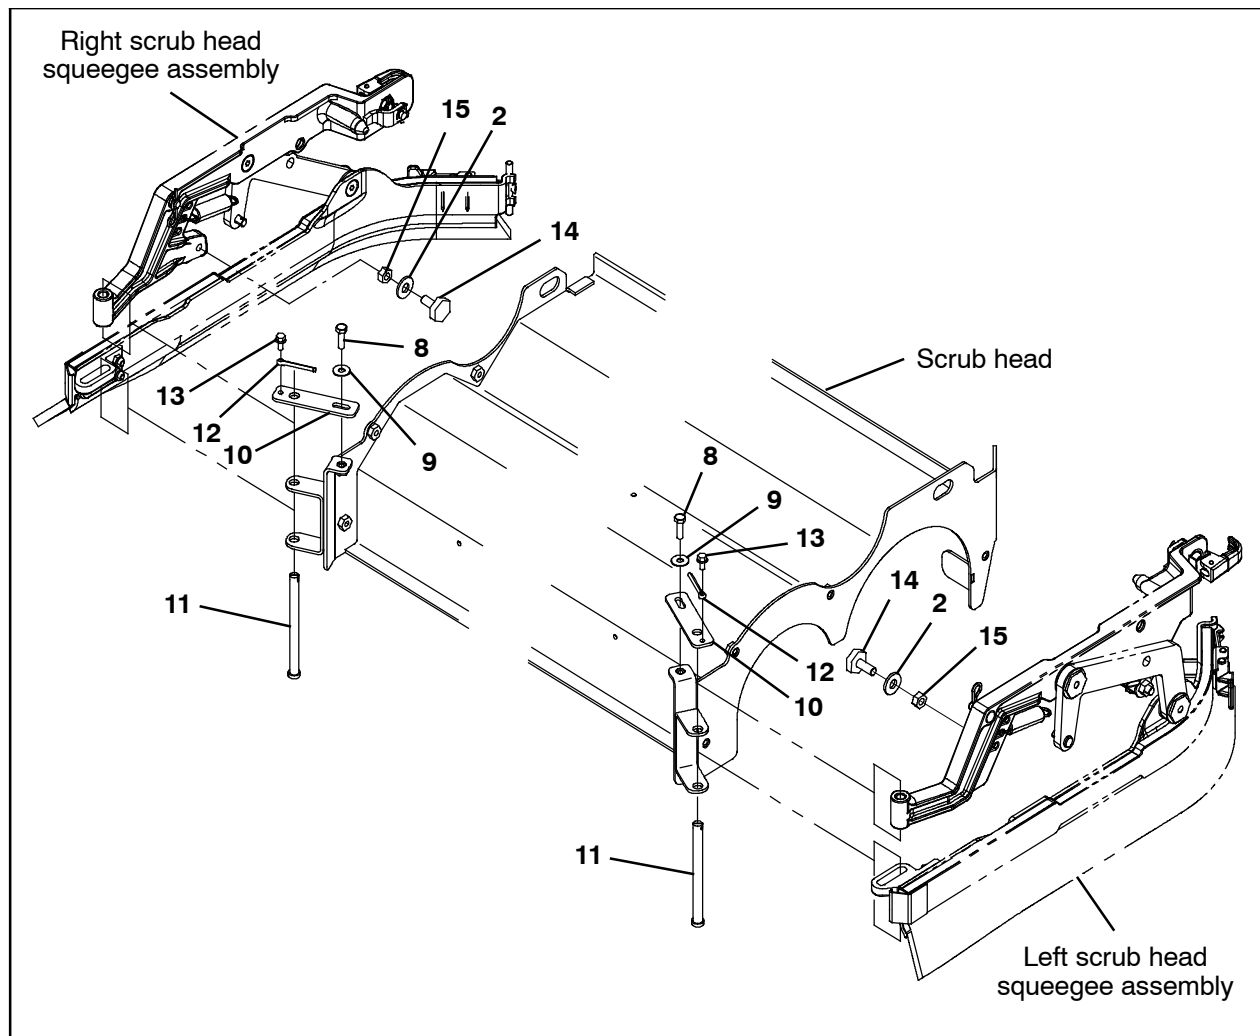

FIG. 4
19. Use one M6 hex screw (8) and one flat washer (9) to install a pin retainer bracket (10) onto each side of the scrub head. (Fig. 4)
20. Use a clevis pin (11) and cotter pin (12) to install the left scrub head squeegee assembly and right scrub head squeegee assembly onto the scrub head. (Fig. 4)
21. Use a M5 hex screw (13) to secure the cotter pins (12) to each pin retainer bracket (10). (Fig. 4)
22. Slide a flat washer (15) onto each rubber bumper (14). (Fig. 4)
23. Thread a M8 hex nut (16) onto each rubber bumper (14). (Fig. 4)
24. Thread a rubber bumper (14) into each scrub head squeegee assembly. (Fig. 4)
25. Adjust the left scrub head squeegee assembly and right scrub head squeegee assembly: Open and close each scrub head squeegee assembly and secure the each scrub head squeegee assembly closed. (Fig. 4)
26. Adjust each rubber bumper (14) as necessary so the bumpers both touch the scrub head and the scrub head squeegee assemblies can be secured closed. (Fig. 4)
27. Tighten each M8 hex nut (16) against the respective scrub head squeegee assembly when finished adjusting the rubber bumpers. (Fig. 4)